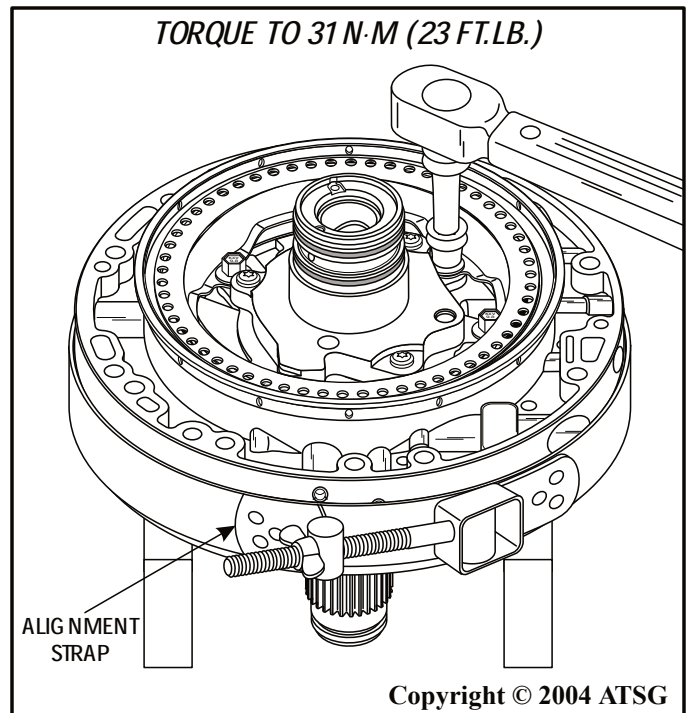

Figure 92
22. Install and tighten the alignment strap around the pump body and cover (See Figure 92).
23. Torque all pump cover to pump body bolts to 31 N•m (23 ft.lb.) as shown in Figure 92.